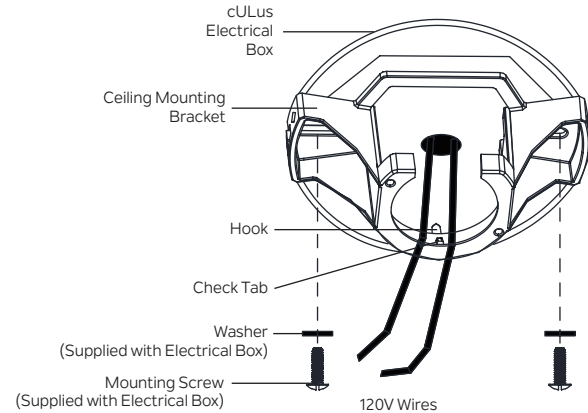

Fig. 5
Step 1. Pass the 120-volt supply wires through the center hole in the ceiling mounting bracket as shown in (Fig. 5).
Step 1. Pass the 120-volt supply wires through the center hole in the ceiling mounting bracket as shown in **Fig. 5**.